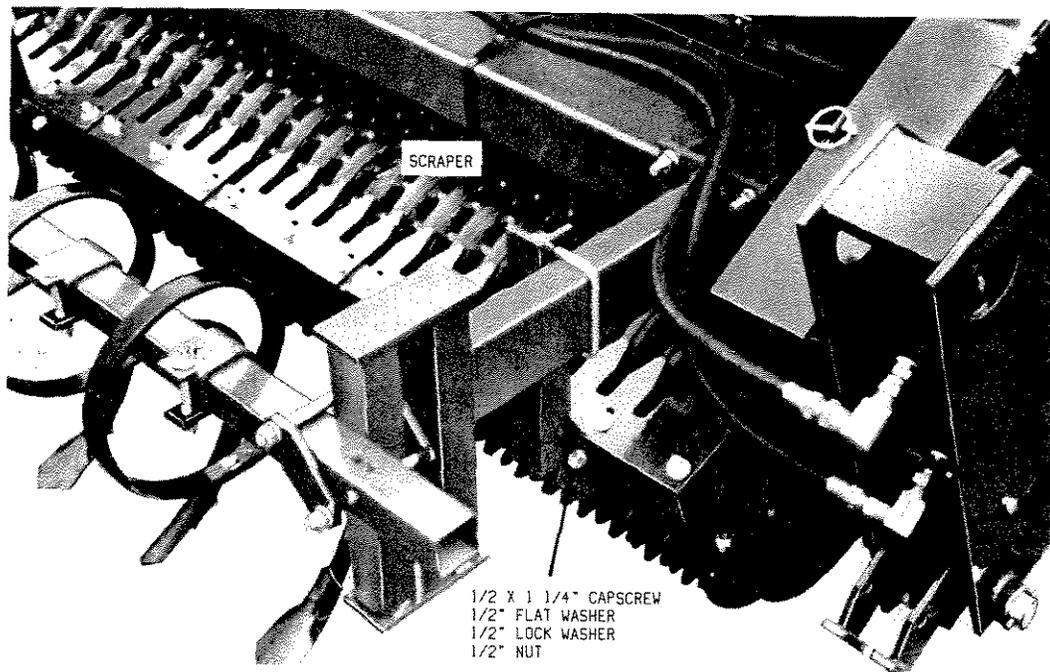

Figure 20
1. Attach brackets to frame with u-bolts (1/2" x 4-1/2" centers x 7-1/2" deep), lock washers, and nuts. Note that long ends of brackets are downward. Brackets should be about 53" from center of machine. See Figure 20.